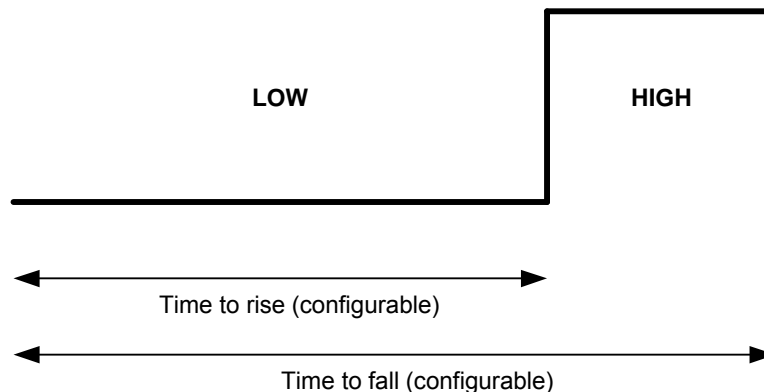

Figure 7: Timer Mode Signal
These times and the timer signal are illustrated below in Figure 7.
- **Single-shot mode:** The timer produces a single pulse cycle (as depicted in Figure 7) and then stops. The timer can be started in this mode using **vAHI_TimerStartSingleShot()**.